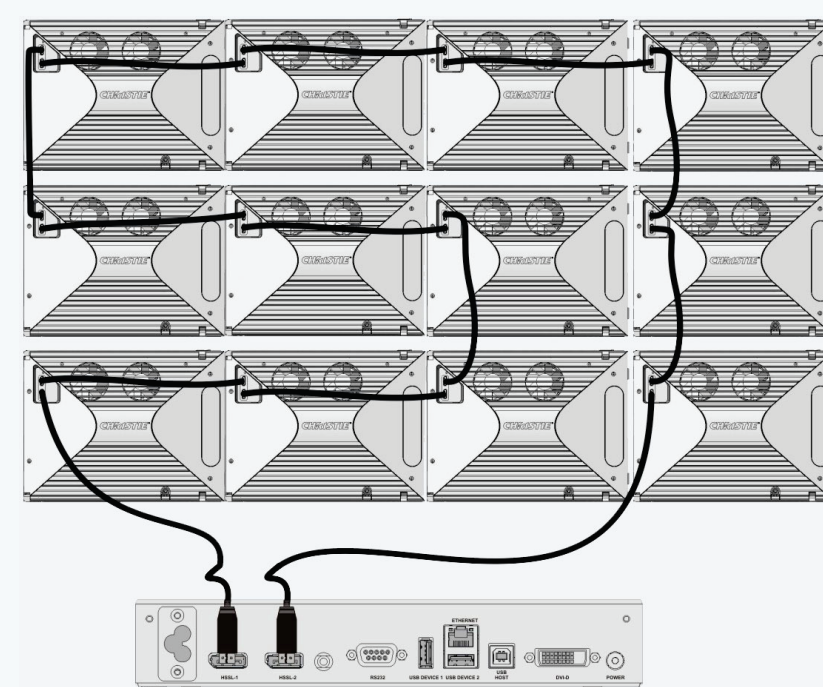

Figure 5 Route Display Port Cables and Connect Sources
- DO NOT insert vertical alignment rods into the tiles installed in the first row to ensure they sit level (Figure 5).
- Plug the display port cables into any of the 2 ports on the back of the tiles. Either port is acceptable on both the ECU and the tiles (Figure 5). For details on the ECU, refer to the *Christie MicroTiles User Manual*.